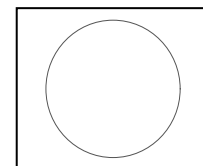

Figure 1
- 2.5 If you have a shaft as in **Figure 1**, you **Must File Two (2) Flat Spots** for the **Set Screws** to **Set On** or the **Set Screws Will Damage the Shaft** and you will not be able to remove the **R126 Spiral Left Hand**. Slide the **R126 Spiral Left Hand** onto the shaft and gently tighten the **Set Screws** to make marks on the shaft. File flats on the shaft where the **Set Screws** made the marks.